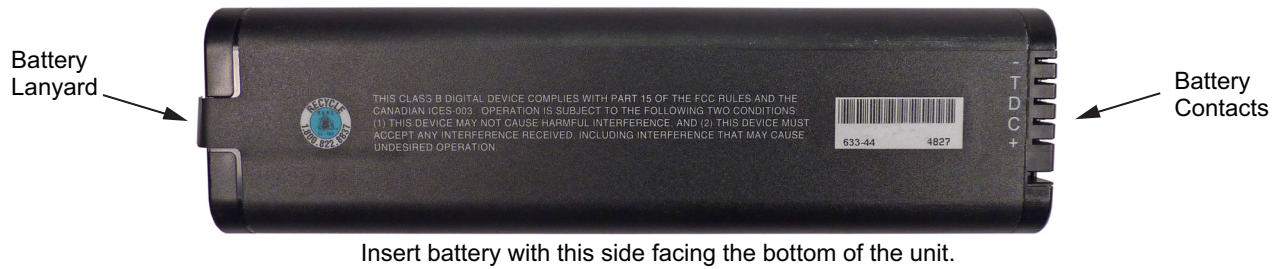

Figure 7-5. Battery Contacts and Orientation
5. Replacement is the opposite of removal. Note the orientation of the battery contacts, and be sure to insert the battery with the contacts facing the bottom of the unit, refer to Figure 7-5.